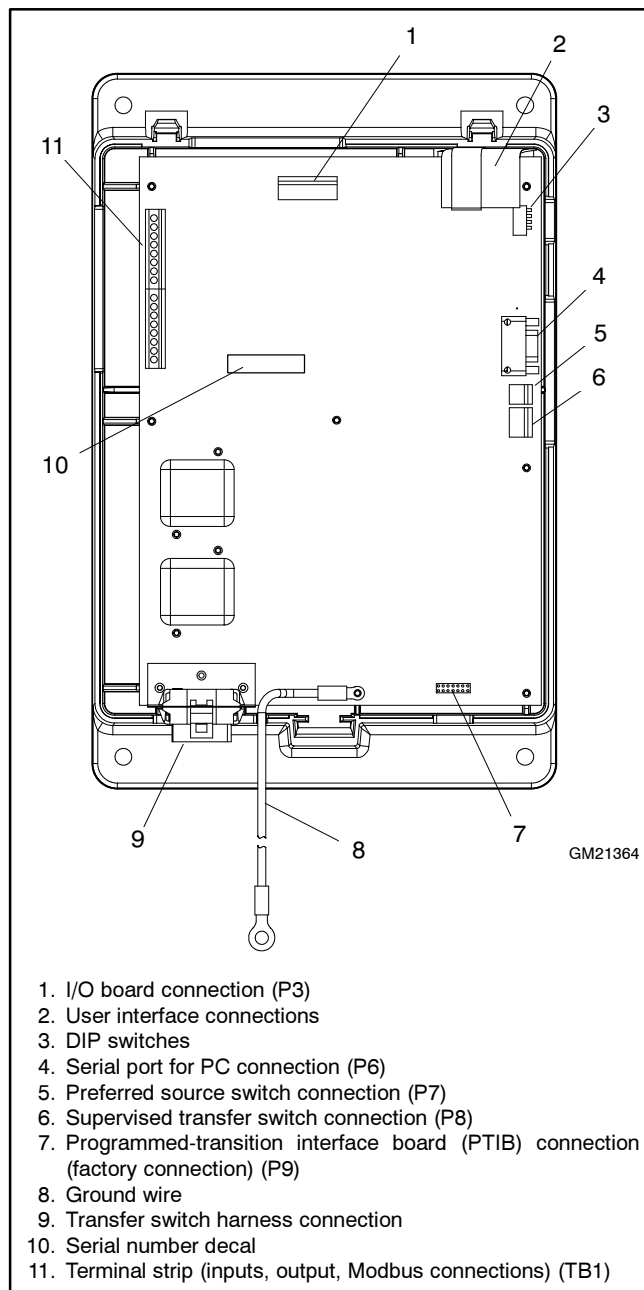

Figure 2-1 Controller Board Component Locations (cover removed)
Refer to the Setup Program Operation Manual for hardware requirements and communication information. Use a null modem cable to connect a personal computer (PC) to the controller's serial port, P6. See Figure 2-1.